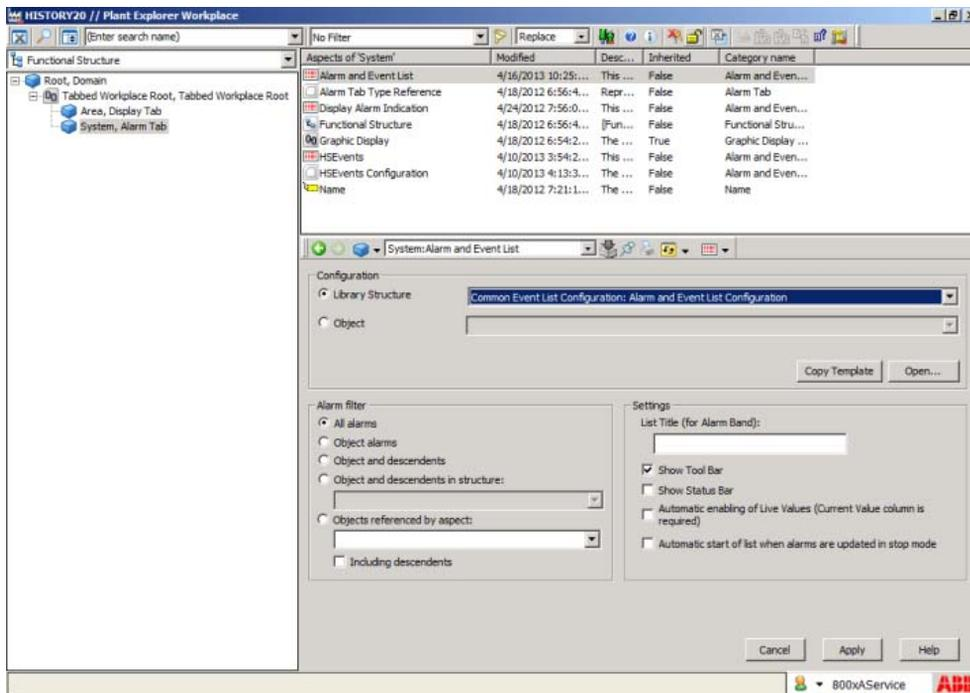

Figure 237. Alarm and Event List aspect - Config View
- Under **Configuration** area, select **Common Event List Configuration: Alarm and Event List Configuration** from the drop-down list as shown in Figure 237.